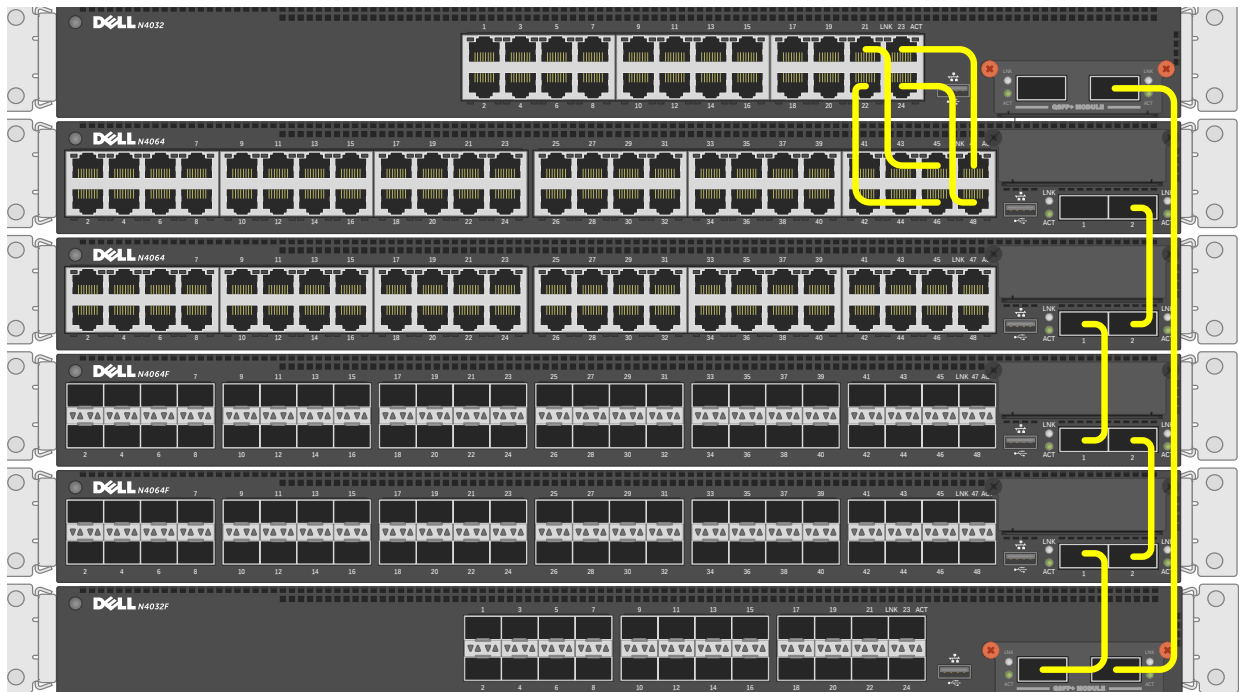

Figure 9 Stacking Dell N4000 series switches using 40G and 10G stack links
This scenario shows steps to create a stack. Figure 9 shows one example of connectivity between stack members.
- Only use interfaces with the same bandwidth to stack between members. It is not supported to mix 40G QSFP+ ports with 10G SFP+ or 10Gbase-T ports on a switch when stacking. It is okay however to use one interface type between two stack members, then a different interface type between two other stacking members as shown in Figure 9.